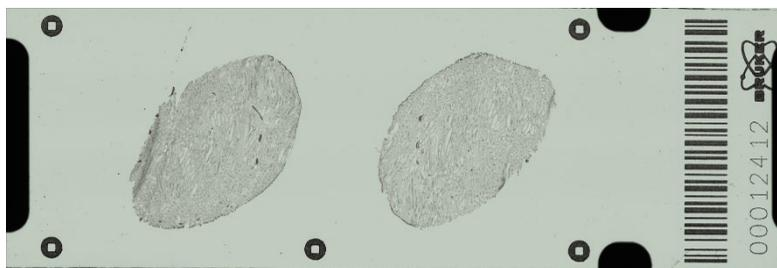

Figure 3-1 Example of IntelliSlide™ scan using TissueScout
- Please create your optical pre-measurement scan before matrix coating. We recommend using the Bruker TissueScout for scanning samples. However, flatbed scanners such as the Epson Perfection V850 Pro can also be used. The entire IntelliSlide™ including all teach marks, barcode and Bruker logo must be scanned (see Figure 3-1).